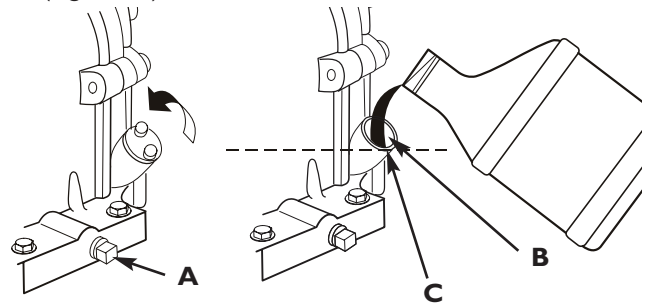

Figure 11 — Change Oil
3. Clean area around oil drain plug (**A**). The oil drain plug is located at base of engine, opposite carburetor (Figure 11).
6. Slowly pour oil (about 28 oz.) into oil fill opening (**B**) to the point of overflowing (**C**) at oil fill cap (Figure 11). **DO NOT** overfill.